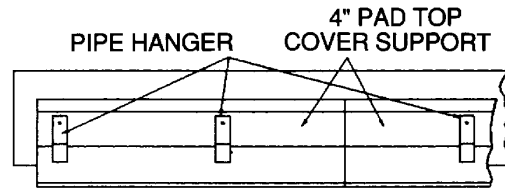
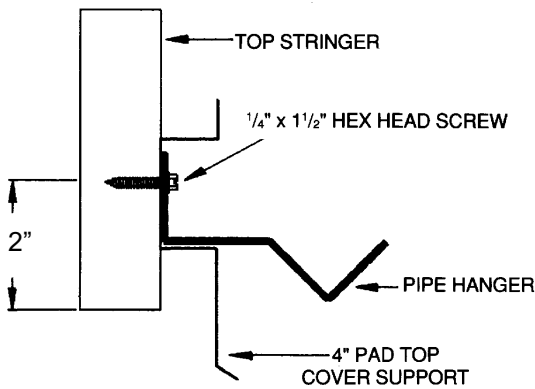
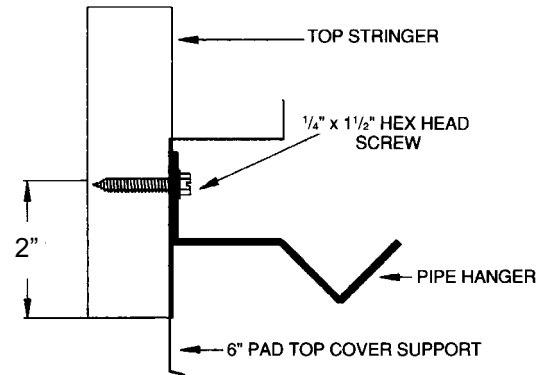

Figure 6
Figure 7
Figure 8
1. Beginning at the drain end, install the top cover support sections and the pipe hangers to the top stringer by lining up the top holes of the top cover support sections with the chalkline on the top stringer. Attach the hangers and the top cover support sections to the stringers with  $1/4" \times 1\ 1/2"$  hex head screws as shown in figure 6, and figure 7 (4" systems) or figure 8 (6" systems).